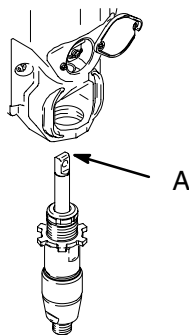

Fig. 12 9575A
1. Fig. 12. Extend pump piston rod fully. Apply grease to top of pump rod at (A) or inside connecting rod.